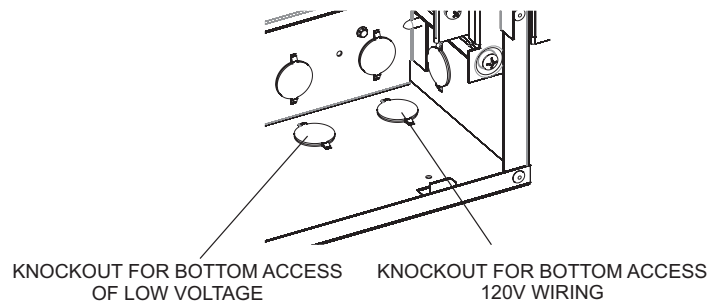

Figure 26
- Remove the knockout required for electrical installation. See Figure 17, 26 and 27 to determine which knockout that best meets your needs. Leave other knockouts closed. See Figures 26 and 27.